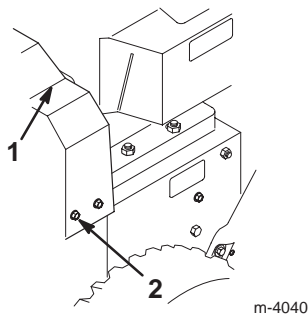

Figure 29
- Remove the three bolts that hold the belt cover in place and set the cover aside (Fig. 29).
3. Remove the three bolts that hold the belt cover in place and set the cover aside (Fig. 29).